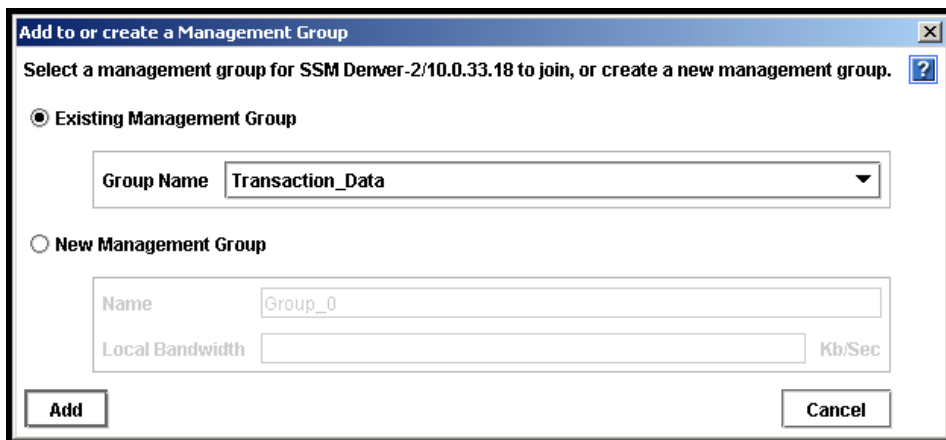

Figure 142. Adding an SSM to Existing Management Group
2. Right-click and select Add to New or Current Management Group. The Add to or Create a Management Group window opens, shown in Figure 142.